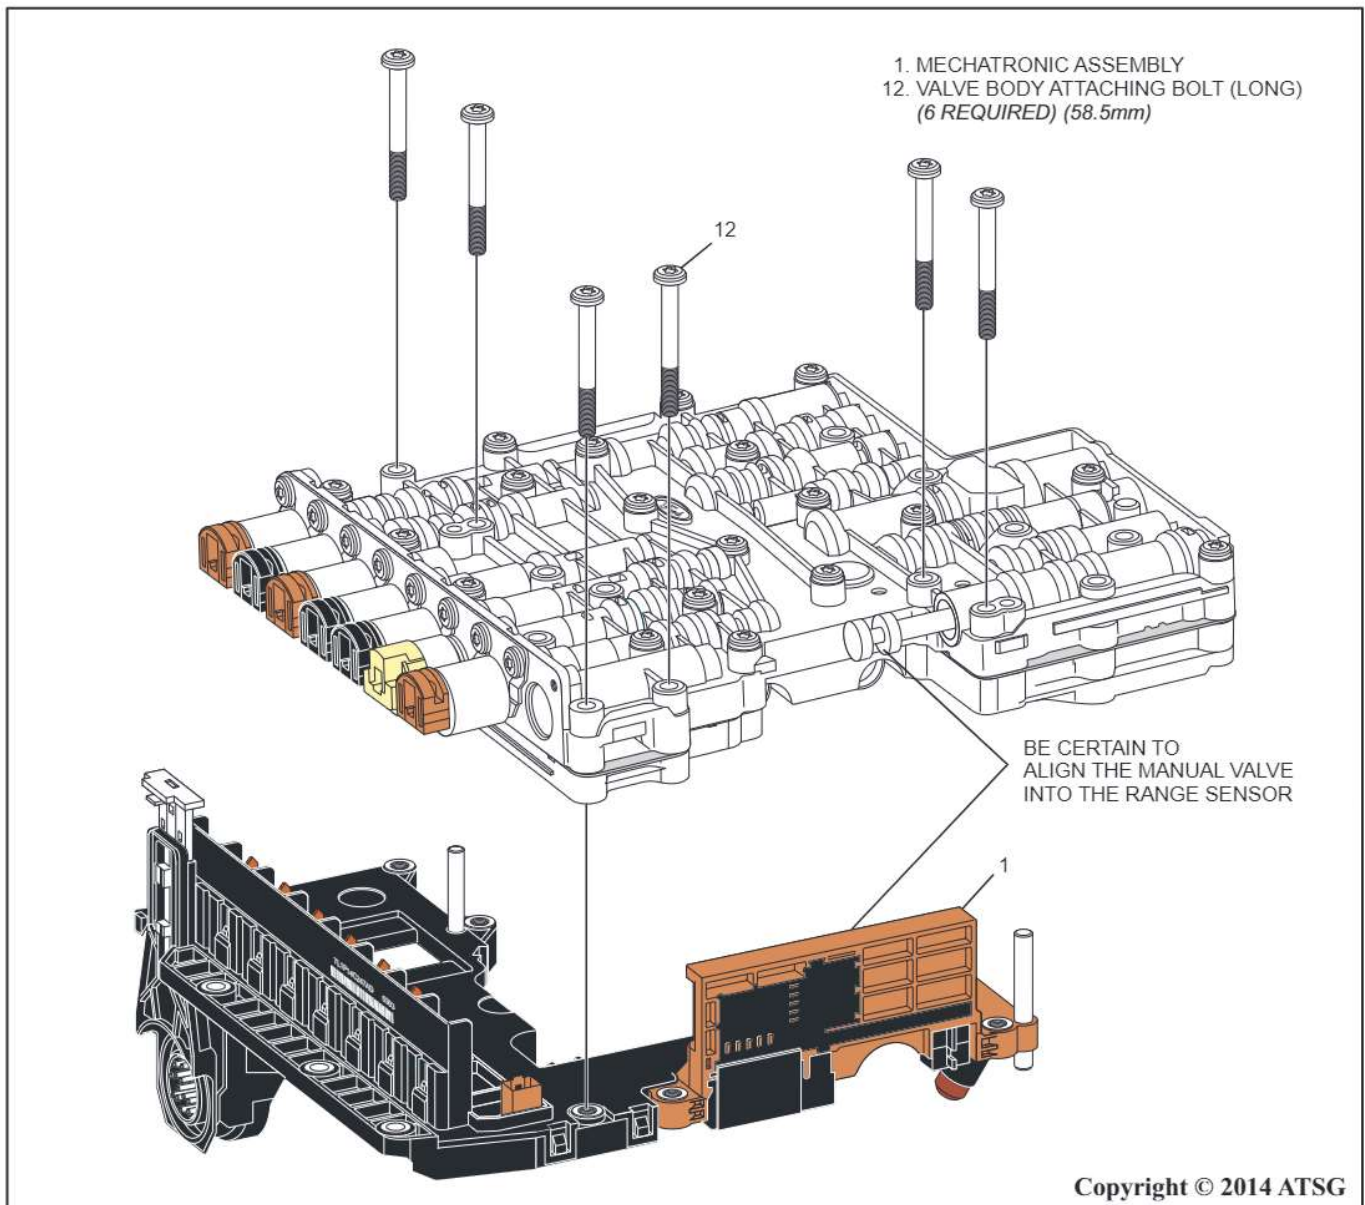

Figure 129
33. Install the mechatronic assembly onto the control valve body assembly using the locating dowels to align the mechatronic assembly correctly as shown in Figure 129.
34. Be certain to line up the manual valve into the range sensor as shown in Figure 129.
35. Install the six long valve body attaching bolts as shown in Figure 129 and hand tighten only.